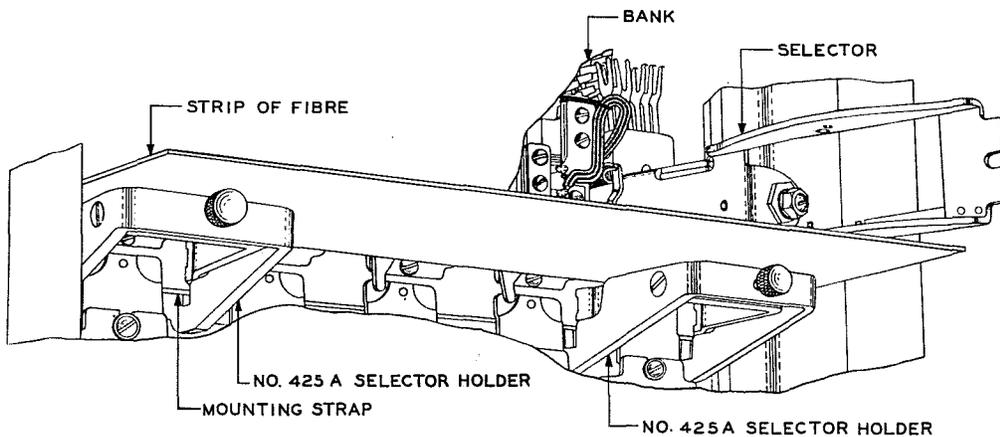

Fig. 1 - Method of Supporting Selector
3.03 200-, 206-, 209-, and 211-type Selectors: Before removing the selector from the bank as covered in 3.05, provide a support for it as follows. This support is particularly desirable when working on several selector banks in the same row. Mount two No. 425A selector holders on the mounting strap below the selectors to be removed as shown in Fig. 1, and place a strip of fiber across the supports to form a shelf. If the mounting strap is too thin to provide satisfactory clamping of the support, insert a wedge between the support and the strap. If apparatus other than selectors is mounted directly below the selector to be removed, and the selector holders cannot be used, the apparatus below the selector may be used as the support for the fiber strip. If neither of these methods is practicable, suspend the selector by a piece of No. 6 cable lacing cord secured to a mounting strap. Take care not to damage the selector leads.